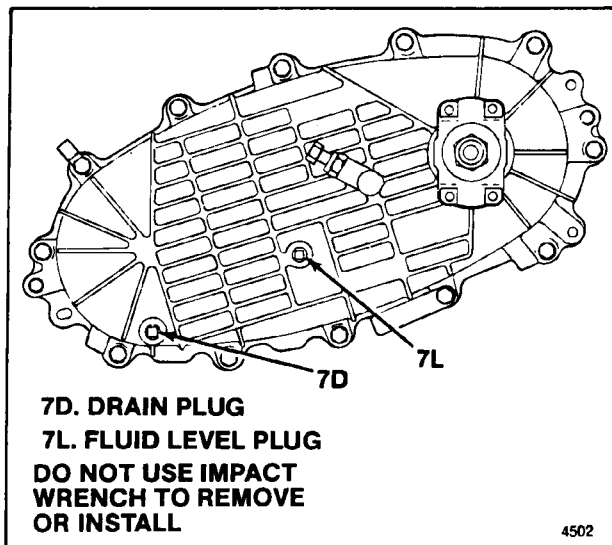

Figure 2-1. Drain and Fluid Level Plugs
- Wipe fluid level plug (see figure 2-1) and surrounding area clean.
- Wipe fluid level and drain plugs (see figure 2-1) and surrounding areas clean.
- e. Place drain pan under transfer case and remove transfer case drain and fluid level plugs (see figure 2-1). Drain all fluid from transfer case and re-install plugs.
- f. Disconnect wiring from 4WD switch on transfer case cover (16).
- g. Disconnect shift linkage from transfer case shift lever (47).
- h. Disconnect speedometer cable from transfer case cover (16).
- i. Disconnect breather hose from breather barb (85) on transfer case.
- j. Disconnect front driveshaft from transfer case front output yoke (83).
- k. Disconnect rear driveshaft from transfer case rear output yoke (4).